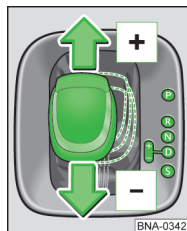

Fig. 66
- To **change up**, tap the selector lever forwards **+** » fig. 66.
- To **change down**, tap the selector lever backwards **-** » fig. 66.